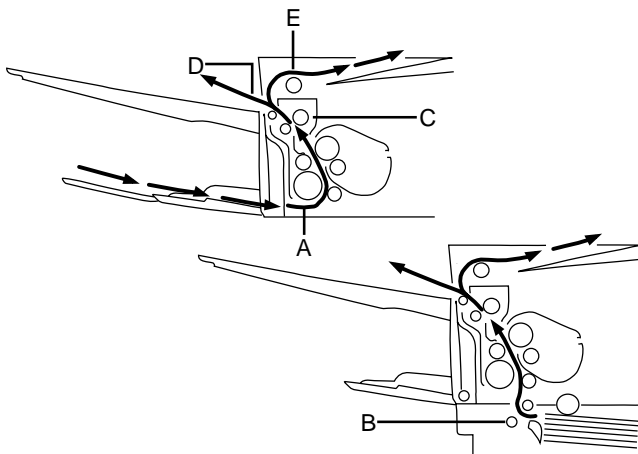

Fig. 7.1 *Paper Jam Locations*
Paper jams occur typically around the fuser roller assembly (A), and the paper feed area (B). See figure 7.1.